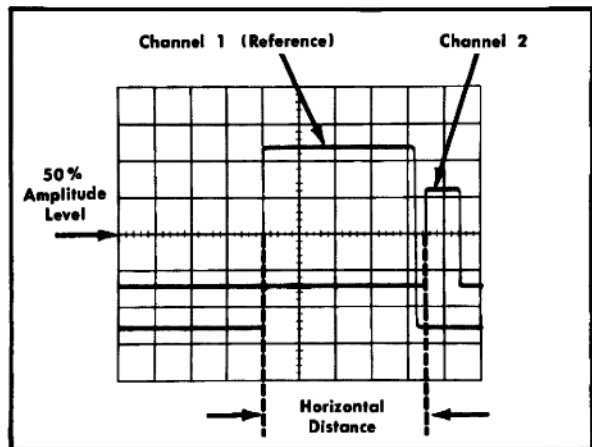

Fig. 2-11. Measuring time difference between two pulses.
9. Measure the horizontal difference between the time measurement points on the channel 1 waveform and the channel 2 waveform (see Fig. 2-11).
Example. Assume that the sweep rate indication is 5 μ s/DIV and the horizontal difference between the time measurement points is 4.5 divisions (see Fig. 2-11).